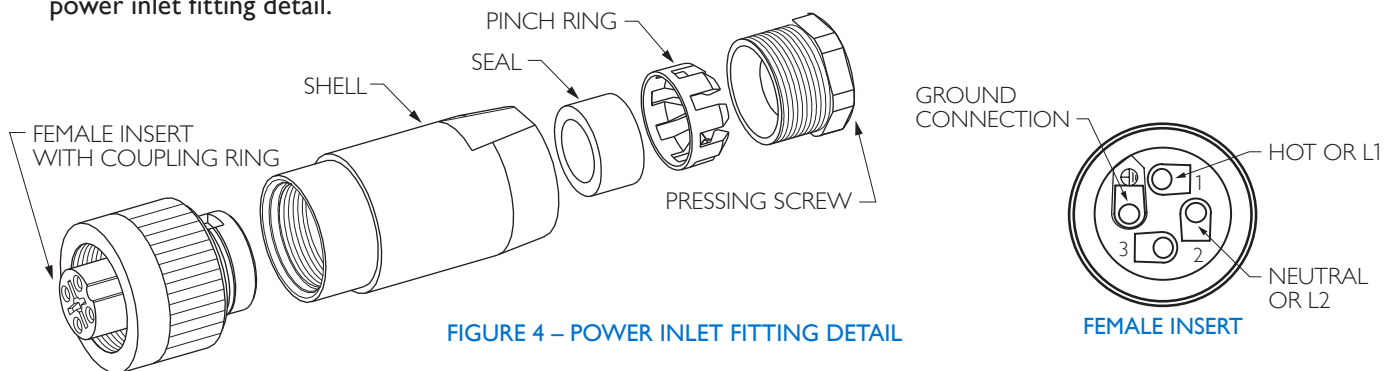

FIGURE 4 – POWER INLET FITTING DETAIL
4. A field-installed junction box should be installed within 4 feet of the unit. 3/8 inch flexible metal conduit, BX, or SO cord can be used to wire the ionizer (check with the local Authorities Having Jurisdiction). Figure 4 shows the power inlet fitting detail.